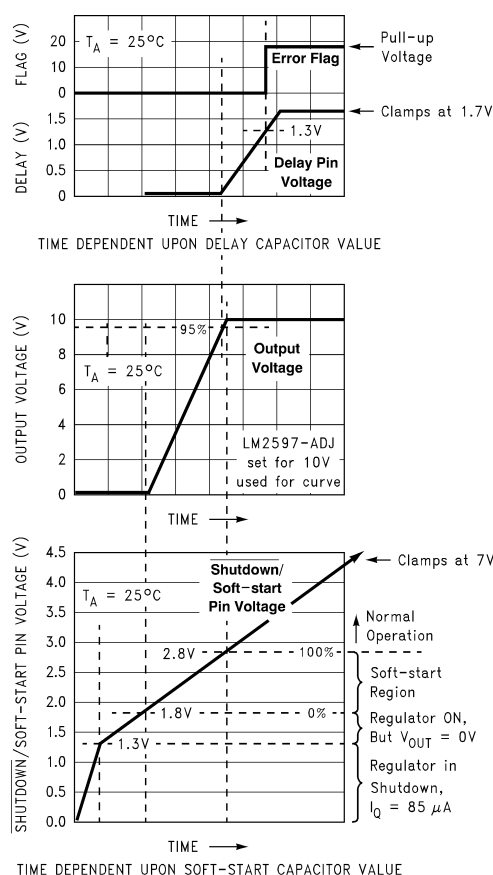
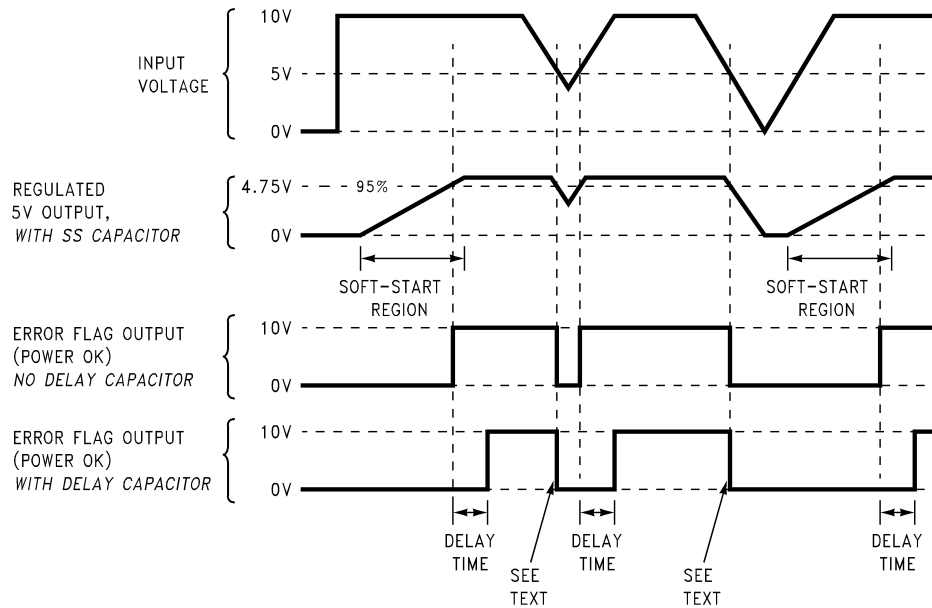

Figure 32. Soft-start, Delay, Error, Output
Figure 33. Timing Diagram for 5V Output
C_{SS} —A capacitor on this pin provides the regulator with a Soft-start feature (slow start-up). When the DC input voltage is first applied to the regulator, or when the Shutdown /Soft-start pin is allowed to go high, a constant current (approximately 5 μA begins charging this capacitor). As the capacitor voltage rises, the regulator goes through four operating regions (See the bottom curve in Figure 32).
3. **Soft-start Region.** When the $\overline{SD}$ /SS pin voltage is between 1.8V and 2.8V (@ 25°C), the regulator is in a Soft-start condition. The switch (Pin 8) duty cycle initially starts out very low, with narrow pulses and gradually get wider as the capacitor $\overline{SD}$ /SS pin ramps up towards 2.8V. As the duty cycle increases, the output voltage also increases at a controlled ramp up. See the center curve in Figure 32. The input supply current requirement also starts out at a low level for the narrow pulses and ramp up in a controlled manner. This is a very useful feature in some switcher topologies that require large startup currents (such as the inverting configuration) which can load down the input power supply.
The lower curve shown in Figure 32 shows the Soft-start region from 0% to 100%. This is not the duty cycle percentage, but the output voltage percentage. Also, the Soft-start voltage range has a negative temperature coefficient associated with it. See the Soft-start curve in Electrical Characteristics.
C_{DELAY} —Provides delay for the error flag output. See the upper curve in Figure 32, and also refer to timing diagrams in Figure 33. A capacitor on this pin provides a time delay between the time the regulated output voltage (when it is increasing in value) reaches 95% of the nominal output voltage, and the time the error flag output goes high. A 3 μ A constant current from the delay pin charges the delay capacitor resulting in a voltage ramp. When this voltage reaches a threshold of approximately 1.3V, the open collector error flag output (or power OK) goes high. This signal can be used to indicate that the regulated output has reached the correct voltage and has stabilized.